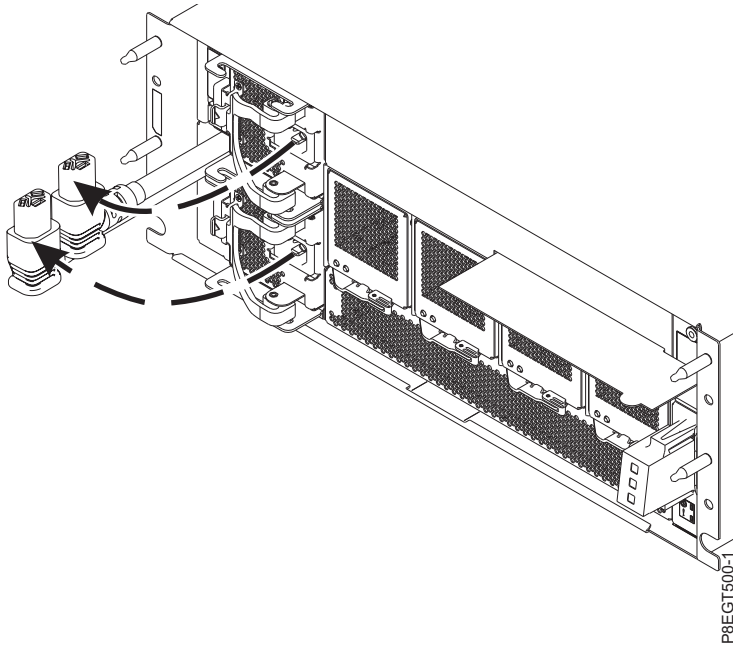

Figure 7. Disconnecting the power supply conduit cables
- c. Disconnect the power supply conduit cables from the power supplies located on the front of the EMX0 PCIe3 expansion drawer. Twist the power cables and position them so that the connectors face up and the upper cable is resting on top of the lower cable as shown in Figure 7 on page 6. Positioning the cables as shown, helps the removal of the power supply conduit. Push the cables into the channel as far as possible.